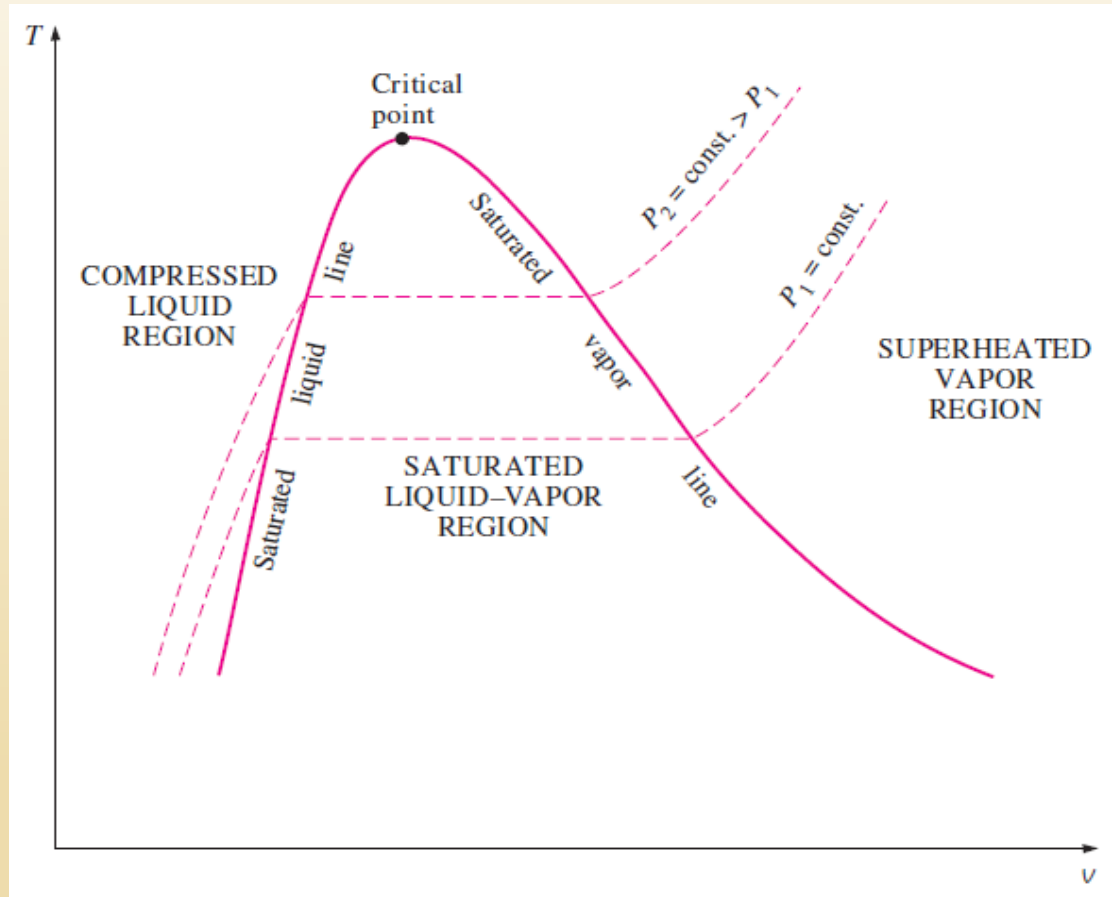

Fig. 3.5 T - v diagram of a pure substance.
- These two lines meet at the critical point, forming a dome as shown in Fig. 3.5.